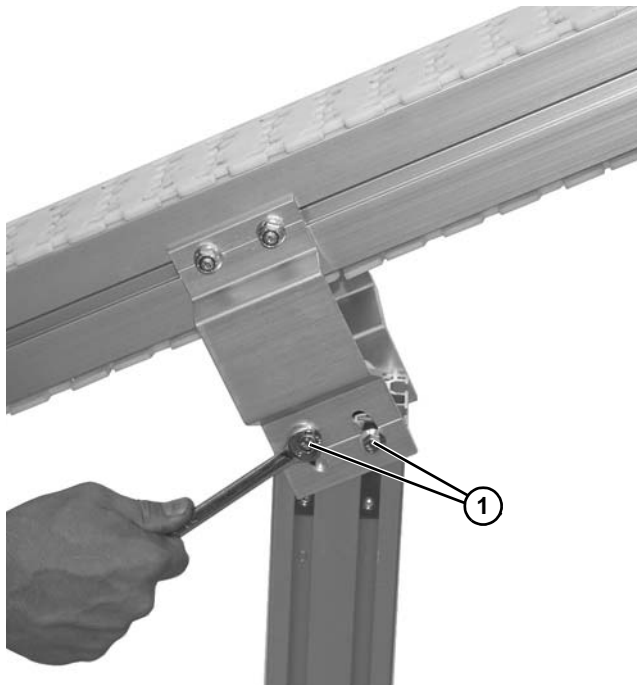

Figure 8
1. Loosen two flange socket head screws (**Figure 8, item 1**) on both sides of stand.
<p>Failure to secure screws (Figure 8, item 1) may cause conveyor sections to drop down, causing severe injury.</p> <p>TIGHTEN SCREWS (Figure 8, item 1) AFTER ADJUSTMENT.</p>
3. Secure flange socket screws (**Figure 8, item 1**) to 24 ft-lb (18 Nm).